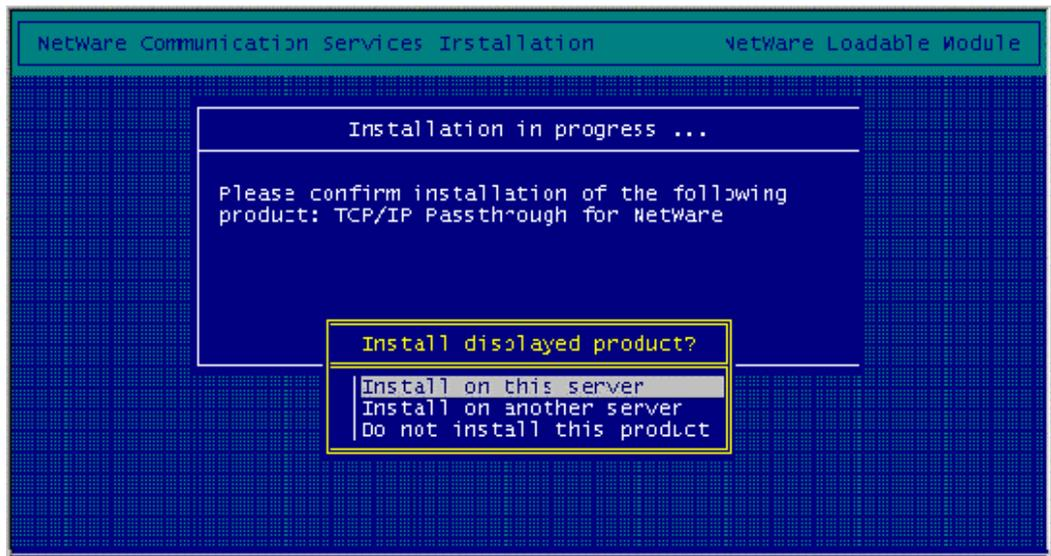

Figure 11-5. Installation Confirmation Screen
5. Press <Enter> to continue. An Installation Confirmation screen will display with the “**Install on this Server**” action highlighted (Figure 11-5). Press <Enter> to install the product.